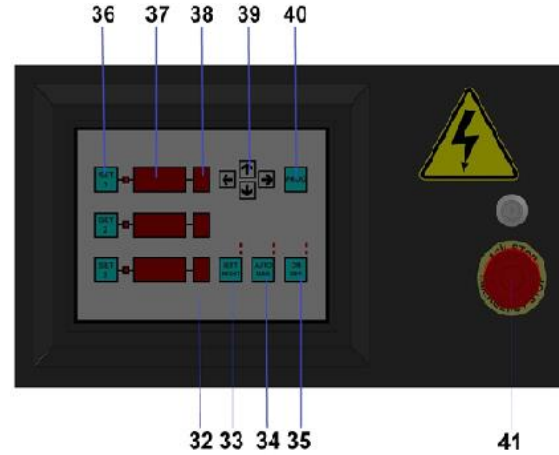

Figure 6: 380V Digital Machine Control Buttons
- Press to SET button on the control panel and than to PROG button and enter the intended data. Use the UP and DOWN arrows (Figure:6 No:39) and enter the intended angle degree to the angle indicator. (Figure:6 No:37) Press the right arrow and switch to unit indicator (Figure:6 No:38) and enter the intended unit. Once angle and unit data is entered press to down arrow and switch to SET line. Enter the data to set line and save it by pressing to PROG button. Maximum 9 value can be entered for each set line indicator.
- After the adjustment is finished switch to MAN-AUTO button (Figure:6 No:34) to AUTO position and start to serial bending.